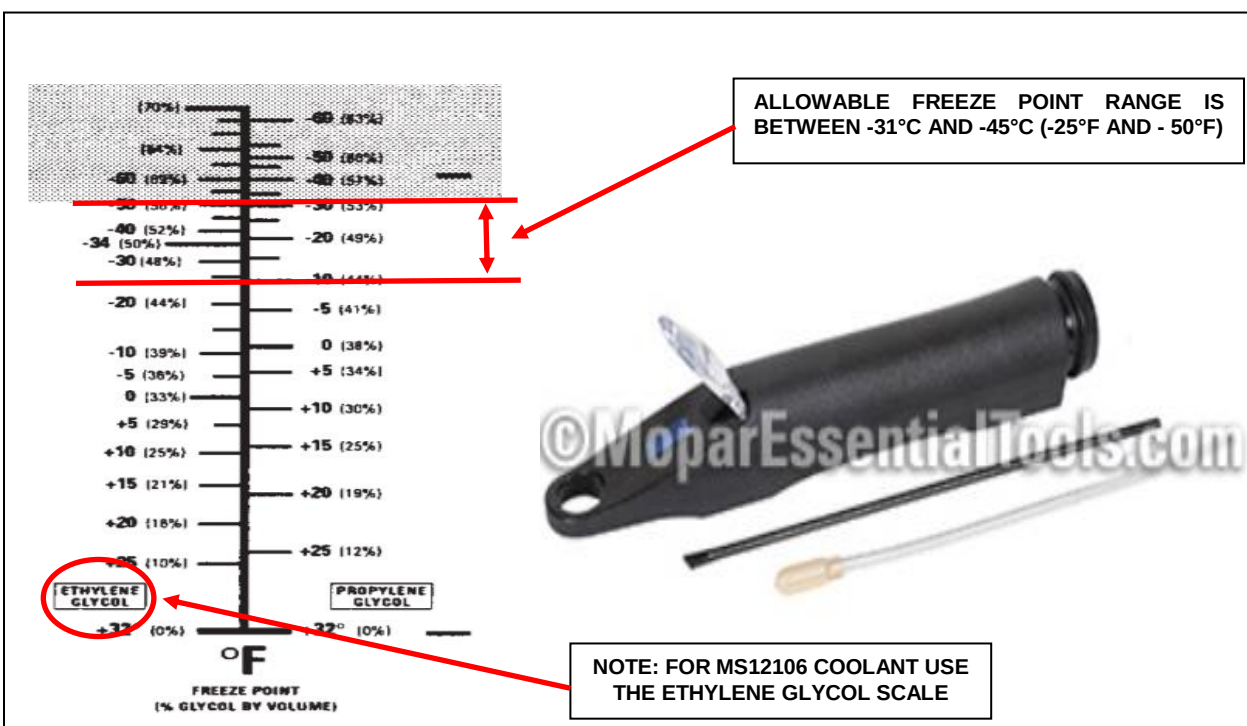

Figure 43 - Refractometer 8286 or Equivalent
- a. Using Refractometer 8286 or equivalent, following the manufacturer's instructions, test the coolant freeze point (Figure 43).